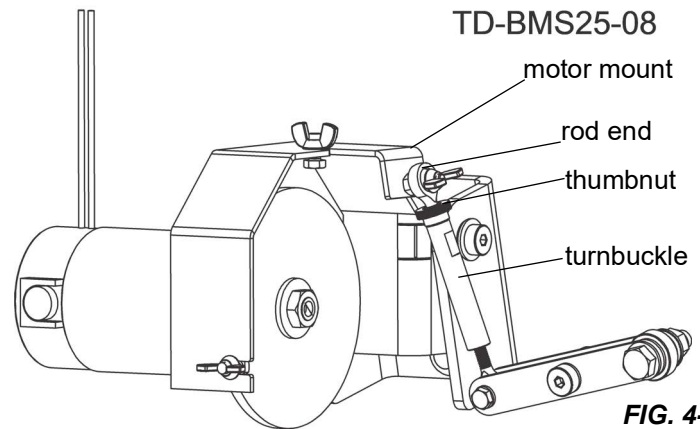

FIG. 4-9
4. Raise or lower the sharpener head so that the grinding wheel lightly touches the gullet by first loosening the thumbnut, and then using the turnbuckle (**See Fig. 4-9.**) to do one of the following: